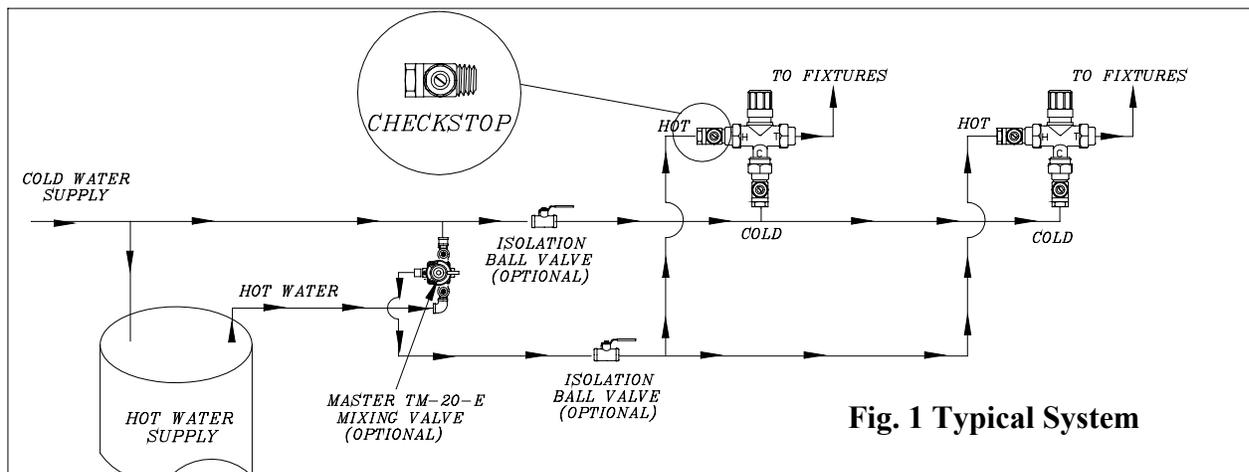

Fig. 1 Typical System
3. Connect the water supply to the Model 220 valve as shown in Fig. 1. Supply piping must be cleaned before making connections to the valve.